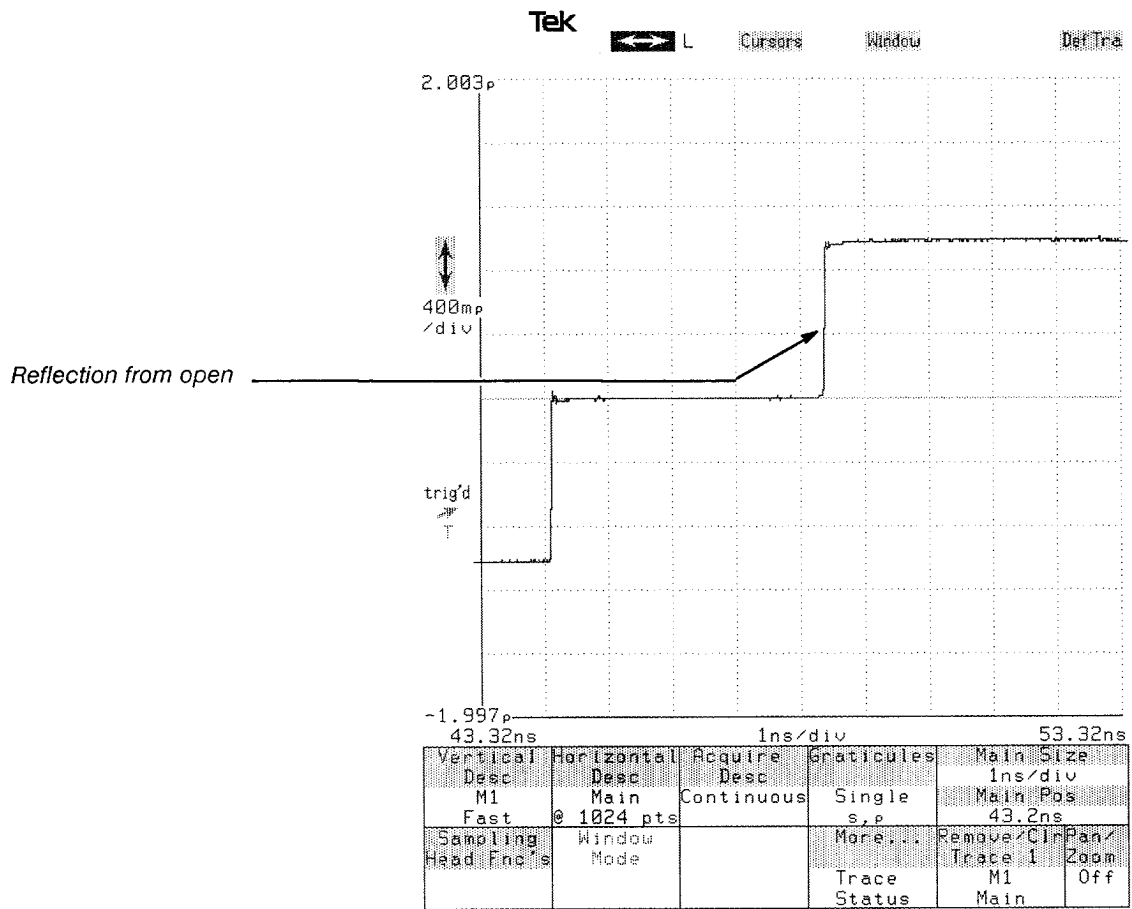

Figure 7 – Foot Switch Pressed
| | Figure 7 | Foot Switch Pressed | 9 |
Step 3: Press the foot switch and find the open circuit end of the cable on the oscilloscope display (see Fig. 7).